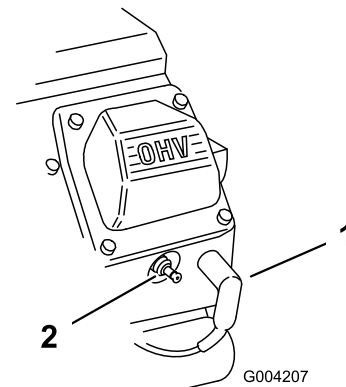

Figure 23
- Pull the wires off of the spark plugs (Figure 23).
3. Push the wires onto the spark plugs (Figure 23).